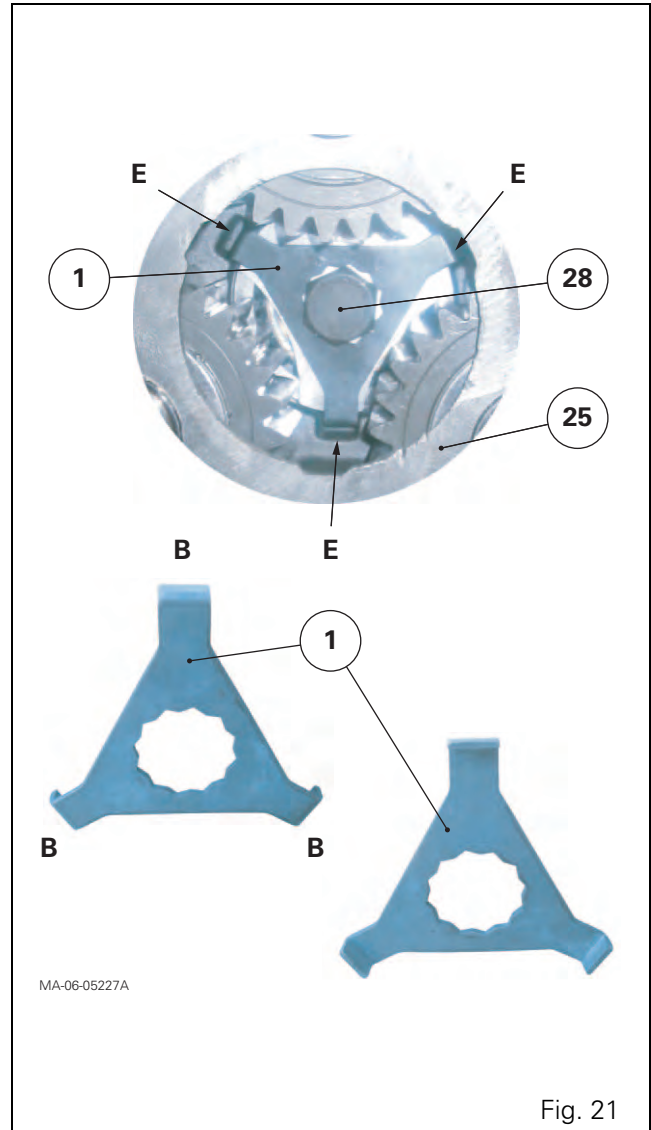

Fig. 21
79. Immobilise the axle shaft (2) or the planet carrier (25).
80. Refit the shim(s) (26) and the tripod washer (27).
81. Screw in and tighten the M24 screw (28) to 640 Nm.
82. Slide a lock washer (1) onto the head of the M24 screw (28). Ensure its tabs B are correctly housed in moulded slots E of the planet carrier (25) (Fig. 21). If this is not the case, repeat the step with the second lock washer; if this is still not the case, repeat the step with the third. Depending on the result (either no washer is suitable or a washer is selected), proceed to step 83 or 84.